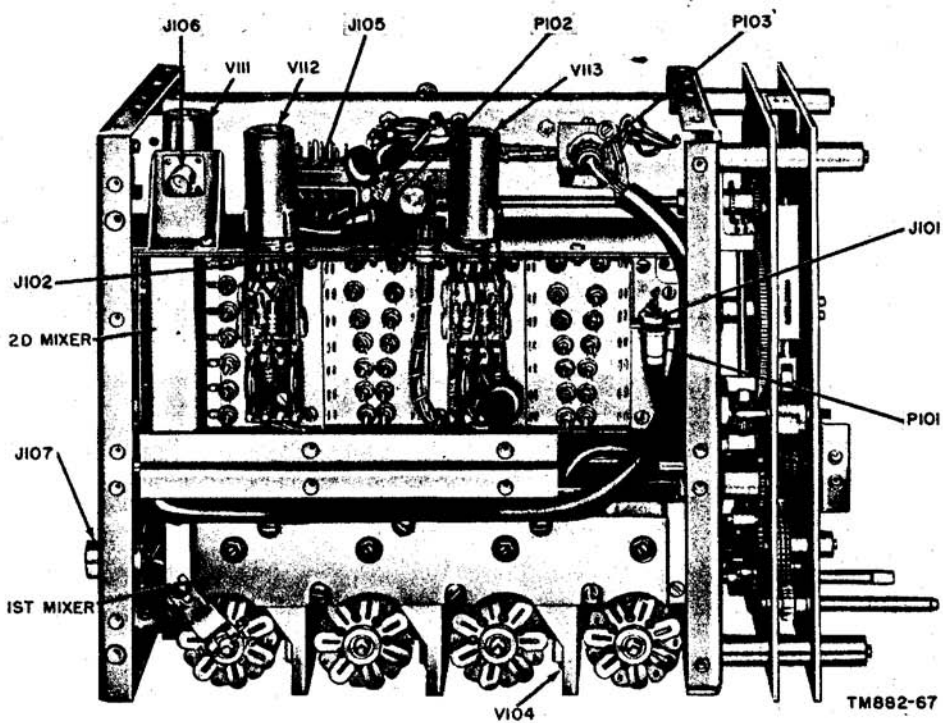

Figure 102. Rf unit, bottom view.
#### *d. Removal of Second Mixer Section* (fig. 102 and 118).
- (4) Tilt the back of the chassis up and then draw the assembly up away from the base plate.
- (5) Replace the second mixer section by reversing the above procedure.
- e. Removal of First Mixer Section* (figs. 102 and 101).
- (1) Disconnect plug P101 of the first mixer section from jack J101 of the second mixer section.